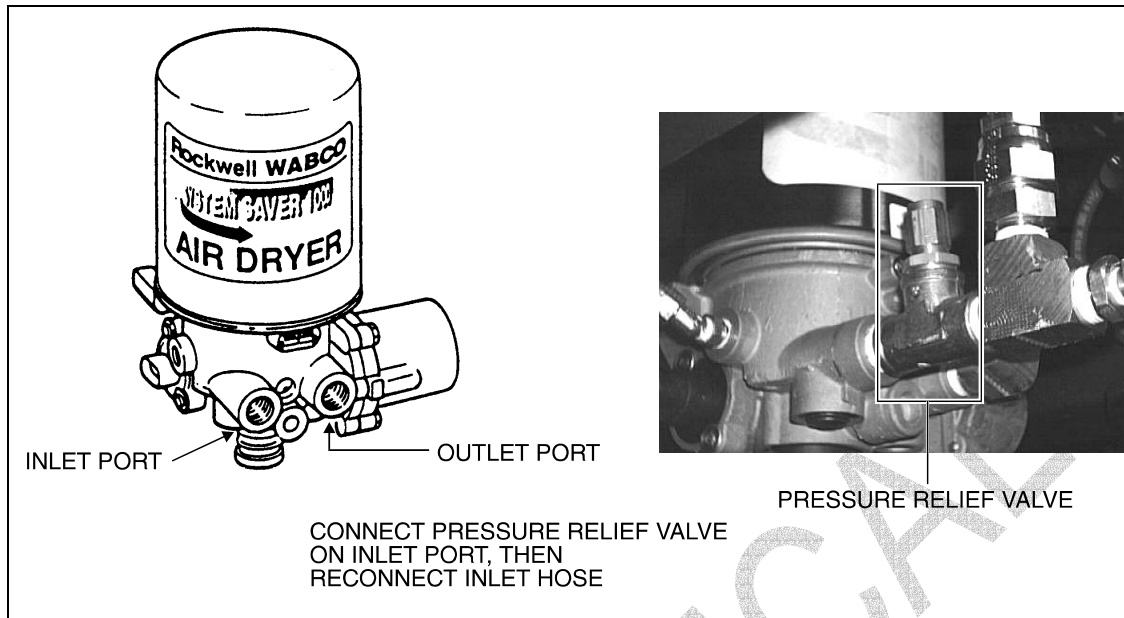

FIGURE 1: SYSTEM SAVER 1000 AIR DRYER AND PRESSURE RELIEF VALVE
2. Locate air dryer in front of rear axles section. Disconnect hose(s) and fitting from inlet port of air dryer (Fig. 1) (it could be necessary to disconnect other hoses and fittings to disconnect inlet hose).
Warning: Pressure relief valve should be installed in the up position (Fig. 1) or within 30° of vertical position.